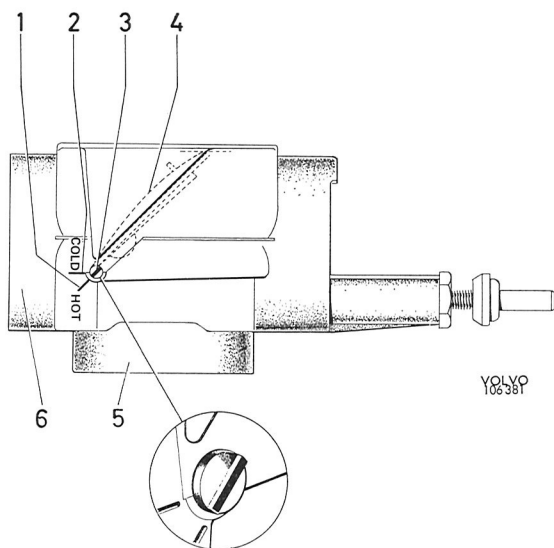

Fig. 2-141. Checking flap function
The flap location can be checked with the flap housing installed in position. A small tab on the flap spindle projects from both sides of the housing (see 3, Fig. 2-141). The longitudinal pin for these tabs coincides with that of the spindle and turns parallel with the spindle. In other words, the location of the flap can be seen at different temperatures by comparing the angle of a tab in relation to the marks (1) and (2). Cold=open for cold air. Hot=open for warm air.